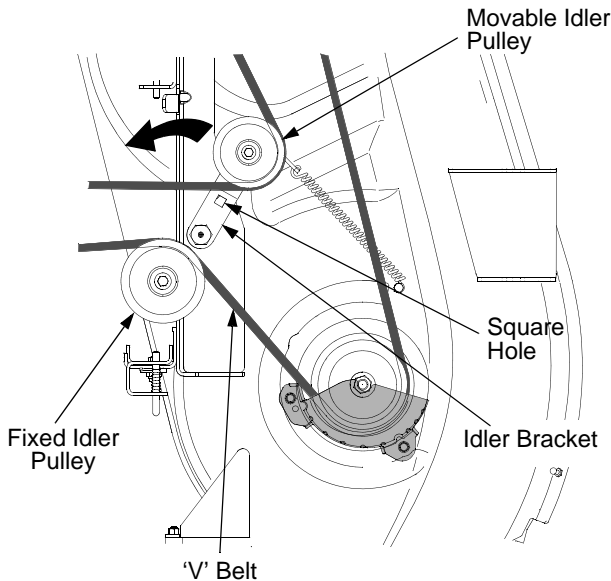

Figure 26
- From beneath the middle of the tractor, insert a 1/2 inch ratchet into the square hole of the deck idler bracket. See Figure 26.
- Using the ratchet for leverage, pivot the idler bracket and movable idler pulley away from the backside of the 'V' belt; then lift the belt off of both the movable and fixed idler pulleys. See Figure 26.
- Route the backside of the belt around the fixed idler pulley of the deck. Refer to Figure 26.
- Insert a 1/2 inch ratchet into the square hole of the deck idler bracket. Refer to Figure 26.
- Using the ratchet for leverage, pivot the idler bracket rearward against the spring tension and slide the backside of the belt onto the movable idler pulley. Refer to Figure 26.